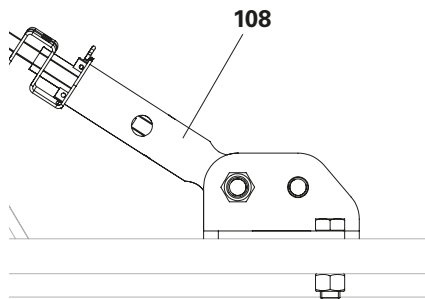

Fig. E3.01b
2. Remove the Articulated Spanner DW15 **(79)**. (Fig. E3.01b)